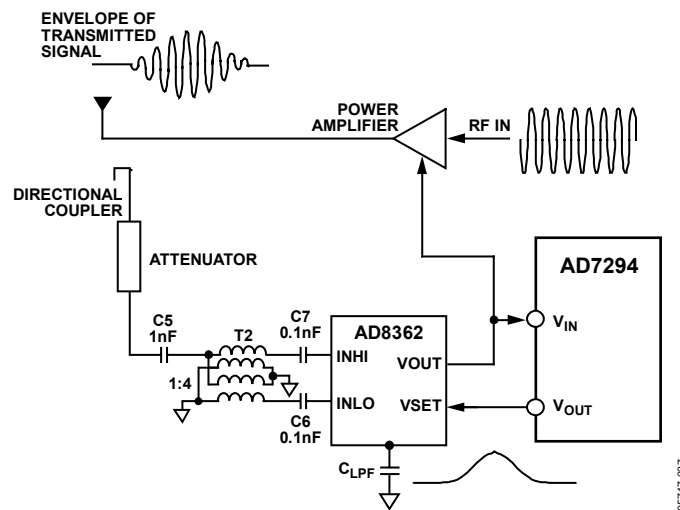

Figure 36. Setpoint Controller Operation
In gain control mode, a setpoint voltage, proportional in dB to the desired output power, is applied to a power detector such as the AD8362. A sample of the output power from the power amplifier (PA), through a directional coupler and attenuator (or by other means), is fed to the input of the AD8362. The V_{OUT} is connected to the gain control terminal of the PA, see Figure 36. Based on the defined relationship between V_{OUT} and the RF input signal, the AD8362 adjusts the voltage on V_{OUT} (V_{OUT} is now an error amplifier output) until the level at the RF input